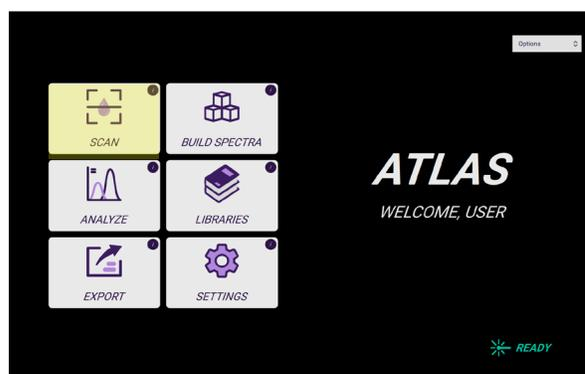

Figure 8. Atlas dashboard – SCAN mode
1. On the Dashboard or navigation bar, select “Scan” to begin (Fig. 8).